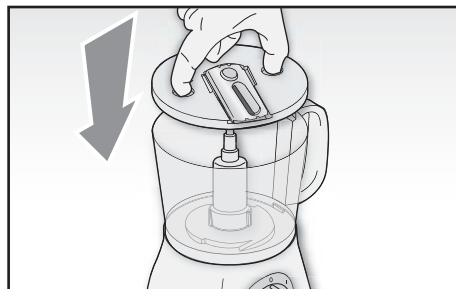

Fig. 8
Install the complete blade holder disc on the motor shaft (C), grabbing it by the eyelets, with the blade facing toward upward (Fig 8).